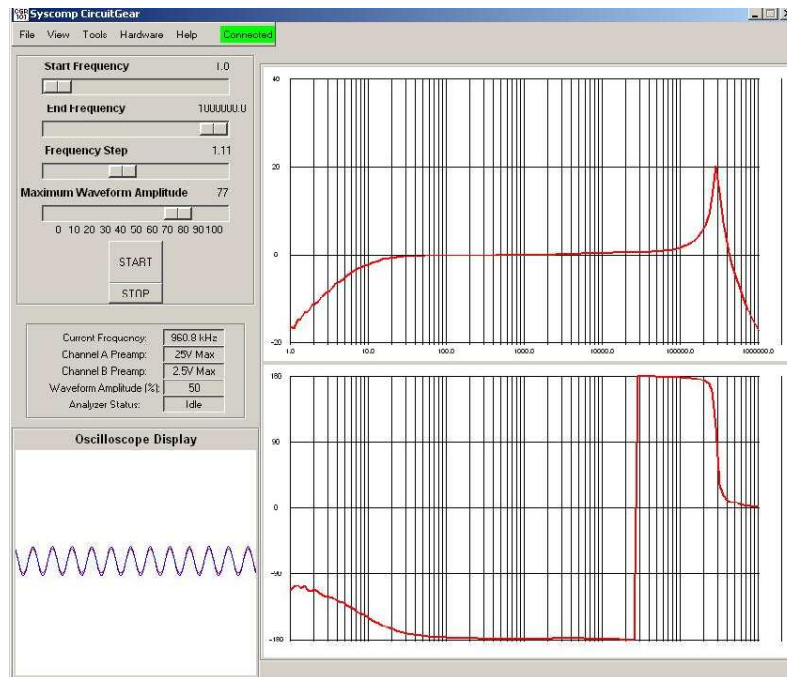

Figure 13: Vector Network Analyser
Figure 13 shows a screen shot of a VNA plot of a small transformer. Notice how the frequency response rolls off at low frequencies and shows a resonant peak at high frequencies.
The display of figure 13 is the amplitude and phase response of a small 1:1 audio transformer. The primary was driven by the generator and connected to Channel A. The secondary was connected to Channel B.
- The amplitude dynamic range of the VNA is in excess of 50db. The VNA automatically adjusts the input signal attenuators of the oscilloscope section to obtain the best possible signal-noise ratio without clipping. It also uses the full 10 bit range of the oscilloscope A/D converters. In the frequency response plot of figure 13, the amplitude and phase plots become erratic at high frequencies. This occurs because the output signal from the low pass filter is extremely small in that region.